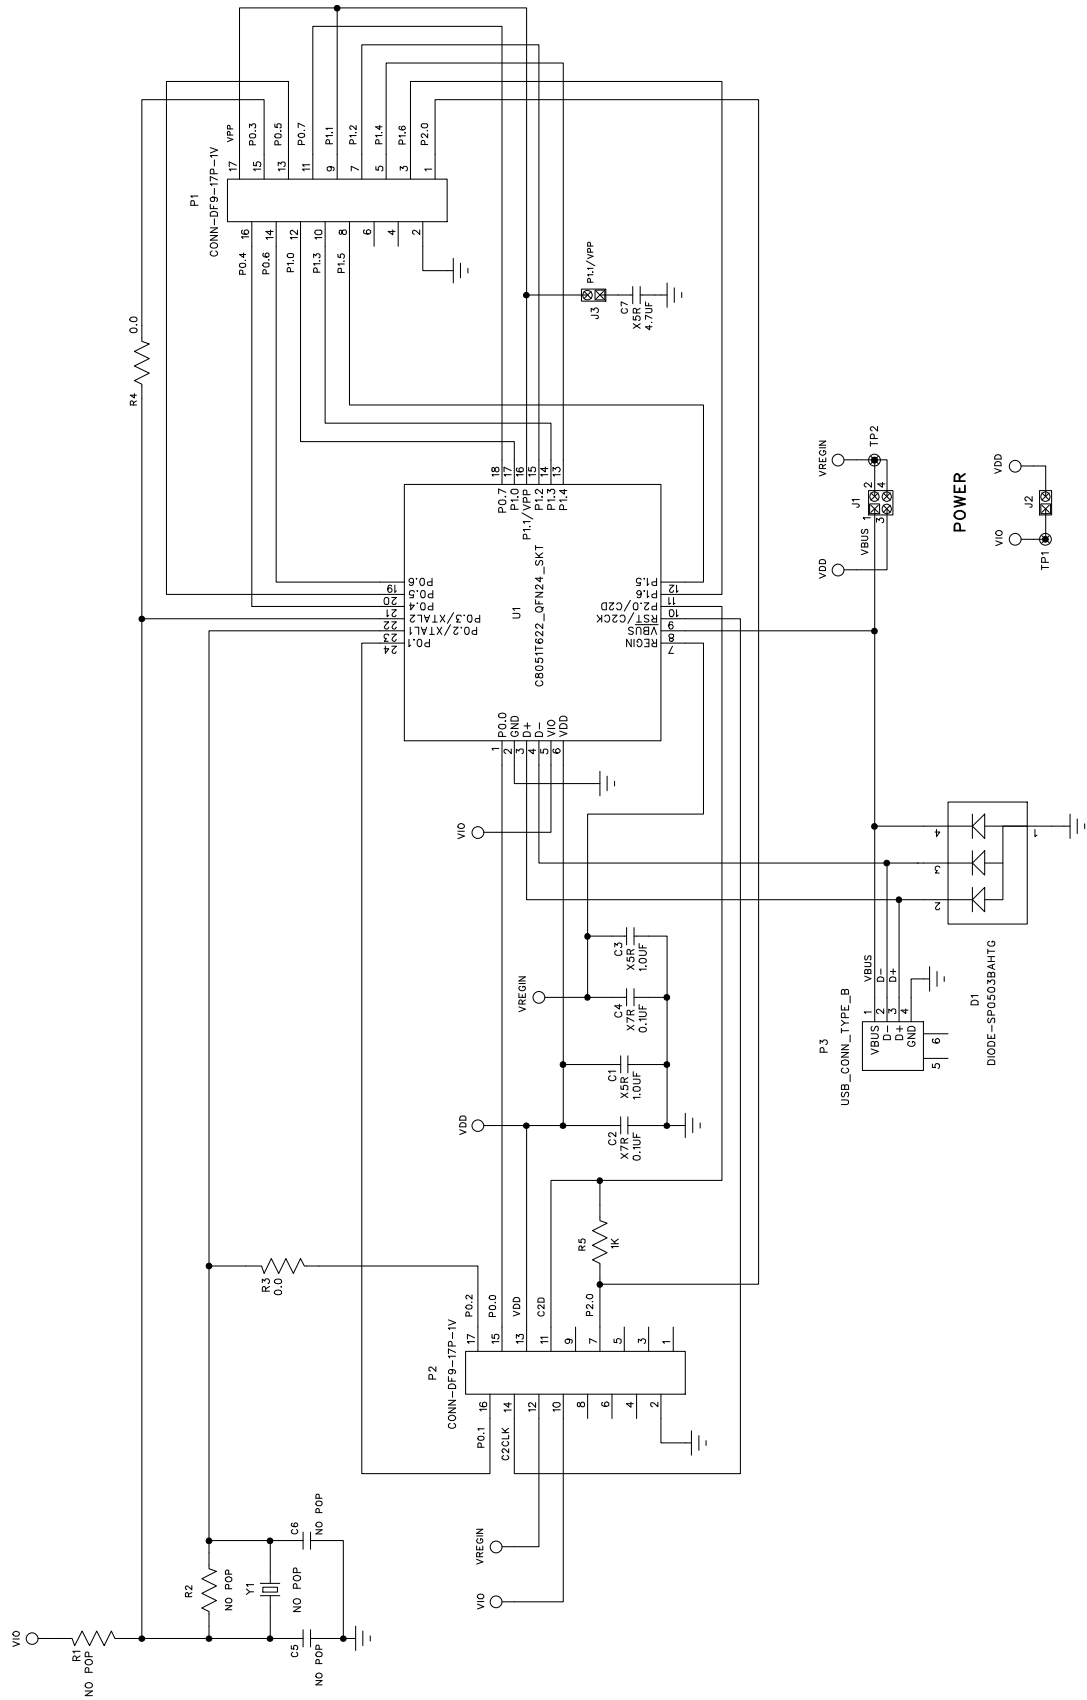

Figure 18. C8051T622 QFN-24 Daughter Board Schematic
- Updated Figure 18 on page 22.